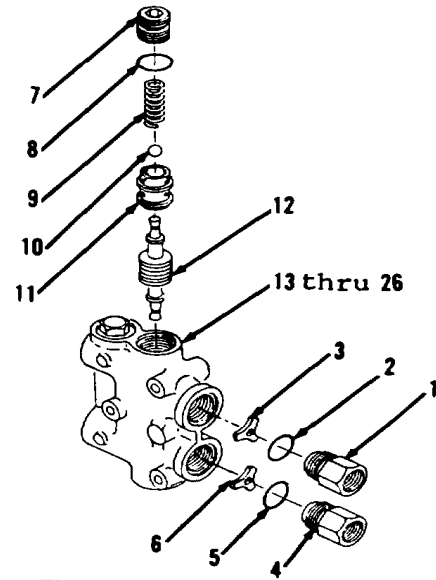

Figure 10-73.
1. Remove adapter (1), preformed packing (2) and choke (3, Figure 10-73) from items 13 thru 26 as an assembly. Discard preformed packing (2).
2. Remove adapter (4), preformed packing (5) and choke (6). Discard preformed packing (5).
3. Loosen plug (7) carefully to relieve tension of spring (9). Remove plug (7), preformed packing (8), spring (9) and ball (10). Discard preformed packing (8).